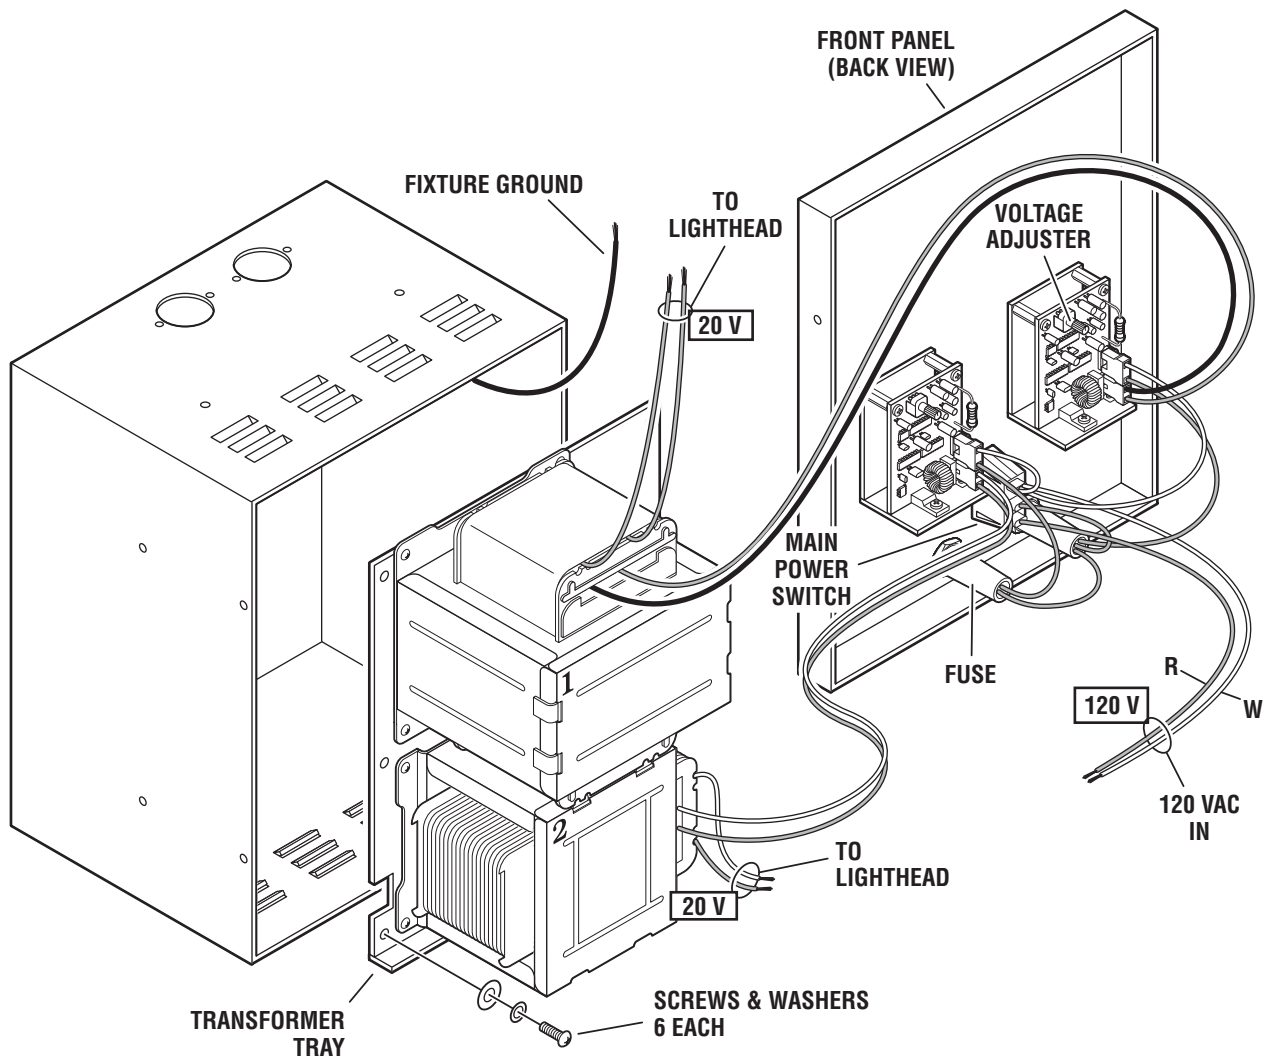

Figure 18. Wall Control
b. Remove the transformer tray assembly from the wall control box for ease in wire connection. See figure 18.
d. Observe wire tags and color codes and connect output leads to appropriate lighthouse wires using crimp connectors. See figure 18.